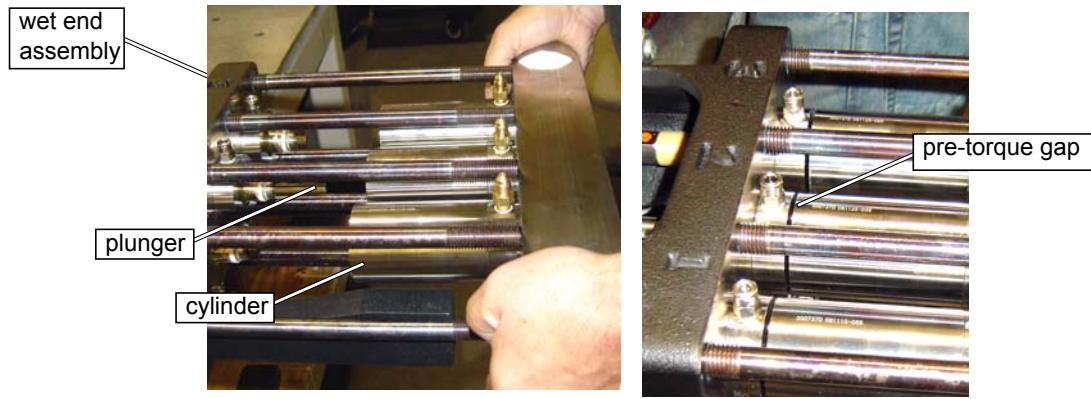

Figure 6-46
9. Slide the **wet end assembly** over the **plungers**. After starting to slide the wet end assembly into position, do not pull the wet end assembly back or cock it as this could cause internal components to dislodge from their assembled position. As **cylinders** begin to slide over the **short seal rings** (Figure 6-46), they may, or may not go on all the way by hand. The small gap that occurs between the end of the cylinders and the coolant housings assemblies closes when the wet end assembly is correctly torqued.